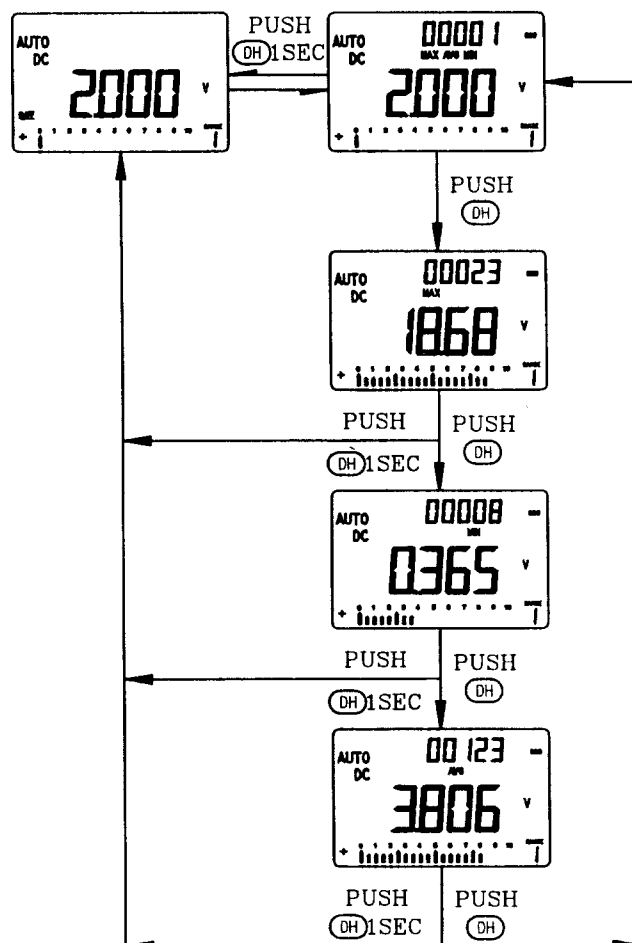

Figure 6. Display of Dynamic Recording
- 3) Press this button momentarily to cycle through maximum, minimum, average and present readings. The **MAX**, **MIN**, **AVG** or **MAX AVG MIN** annunciator turns on respectively to indicate which value is being displayed. See **Figure 6**.